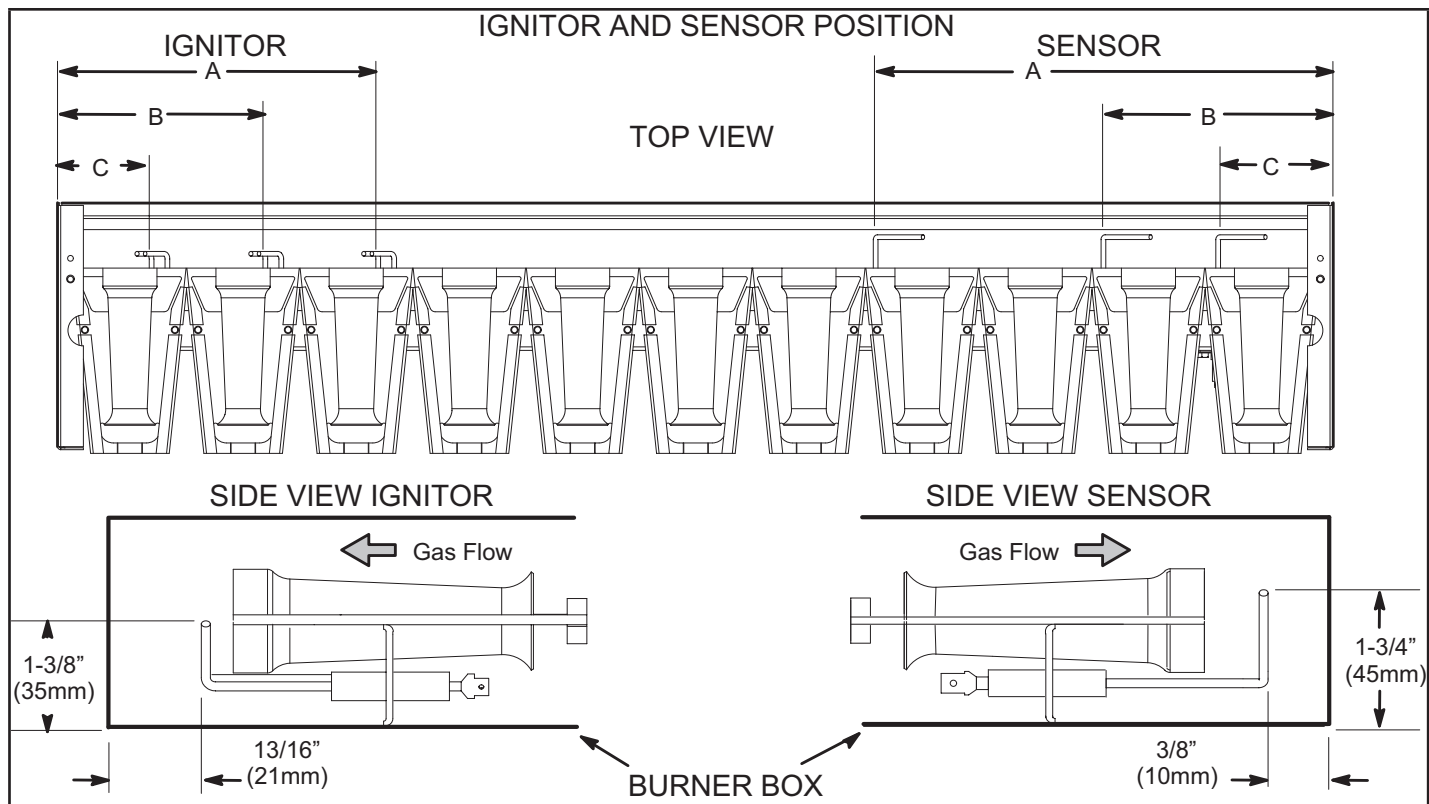

FIGURE 48
- 5 - Check the alignment of the ignitor and the sensor as shown in FIGURE 48 and TABLE 25.